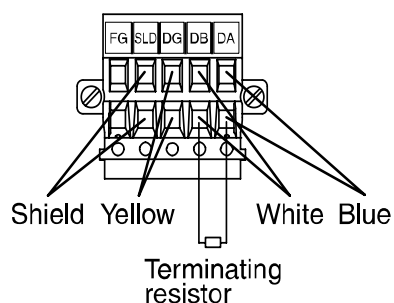

Fig.3
- (3) The terminating resistor to connect differs depending on a cable to use at CC-Link system. (Refer to the following table and Fig.3)